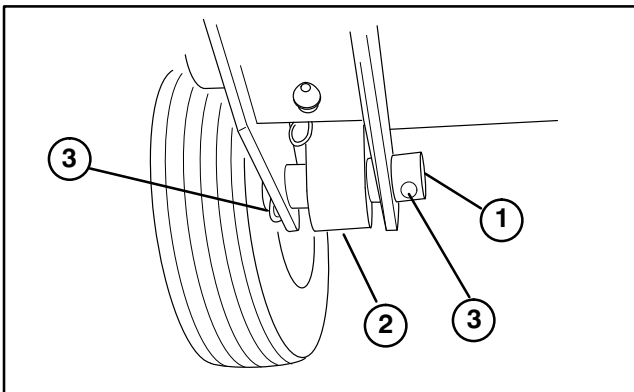

Figure 2
2. Spacer (2)
5. Mount rear of lift arm to lift cylinder with pivot pin and (2) cotter pins (supplied with traction unit) (Fig. 2).